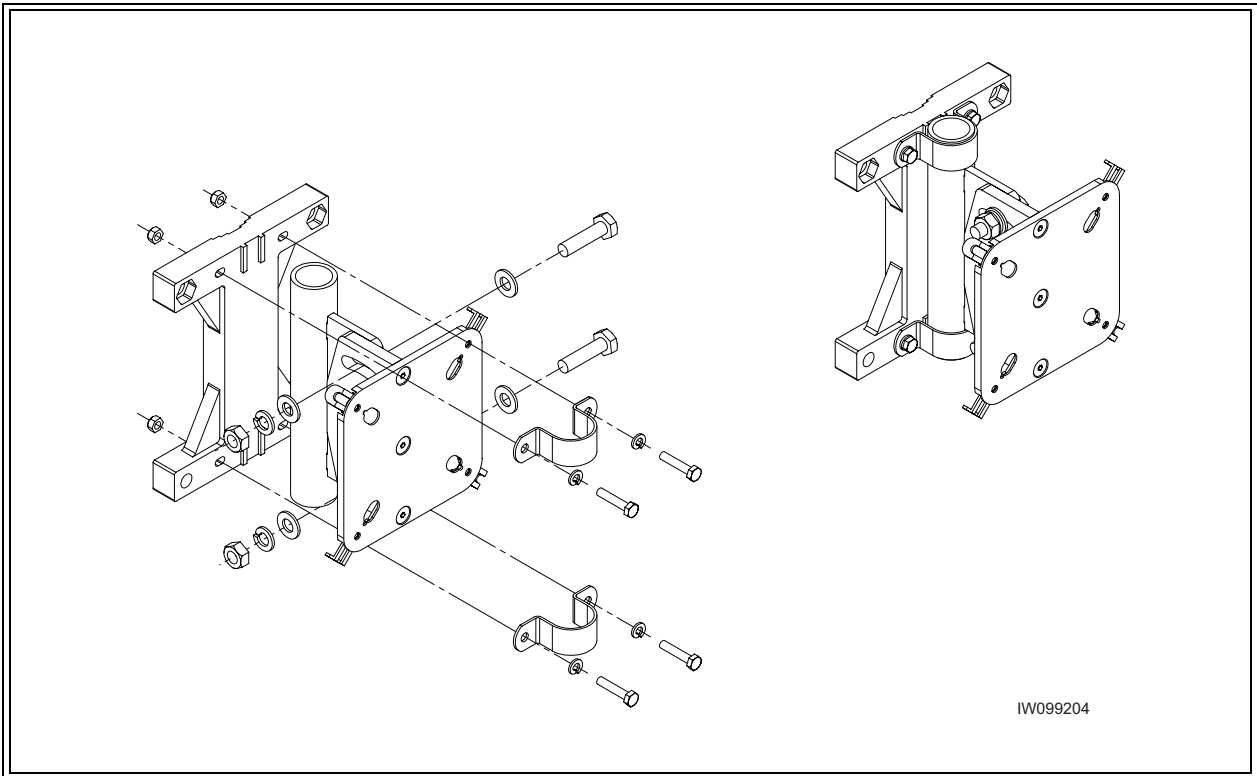

Figure 4-10 Adjustable Elevation Dual Link CX Mounting Bracket Assembly (one side only)
- D On each side of the pole mount bracket assembly, assemble the rest of the Link CX mounting bracket assembly parts as shown in Figure 4-10.